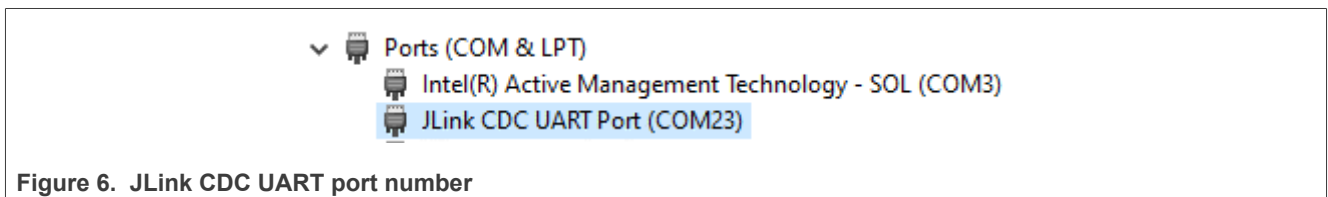

Figure 6. JLink CDC UART port number
- Open Device Manager on the test PC. Look for **JLink CDC UART** port number as shown in Figure 6